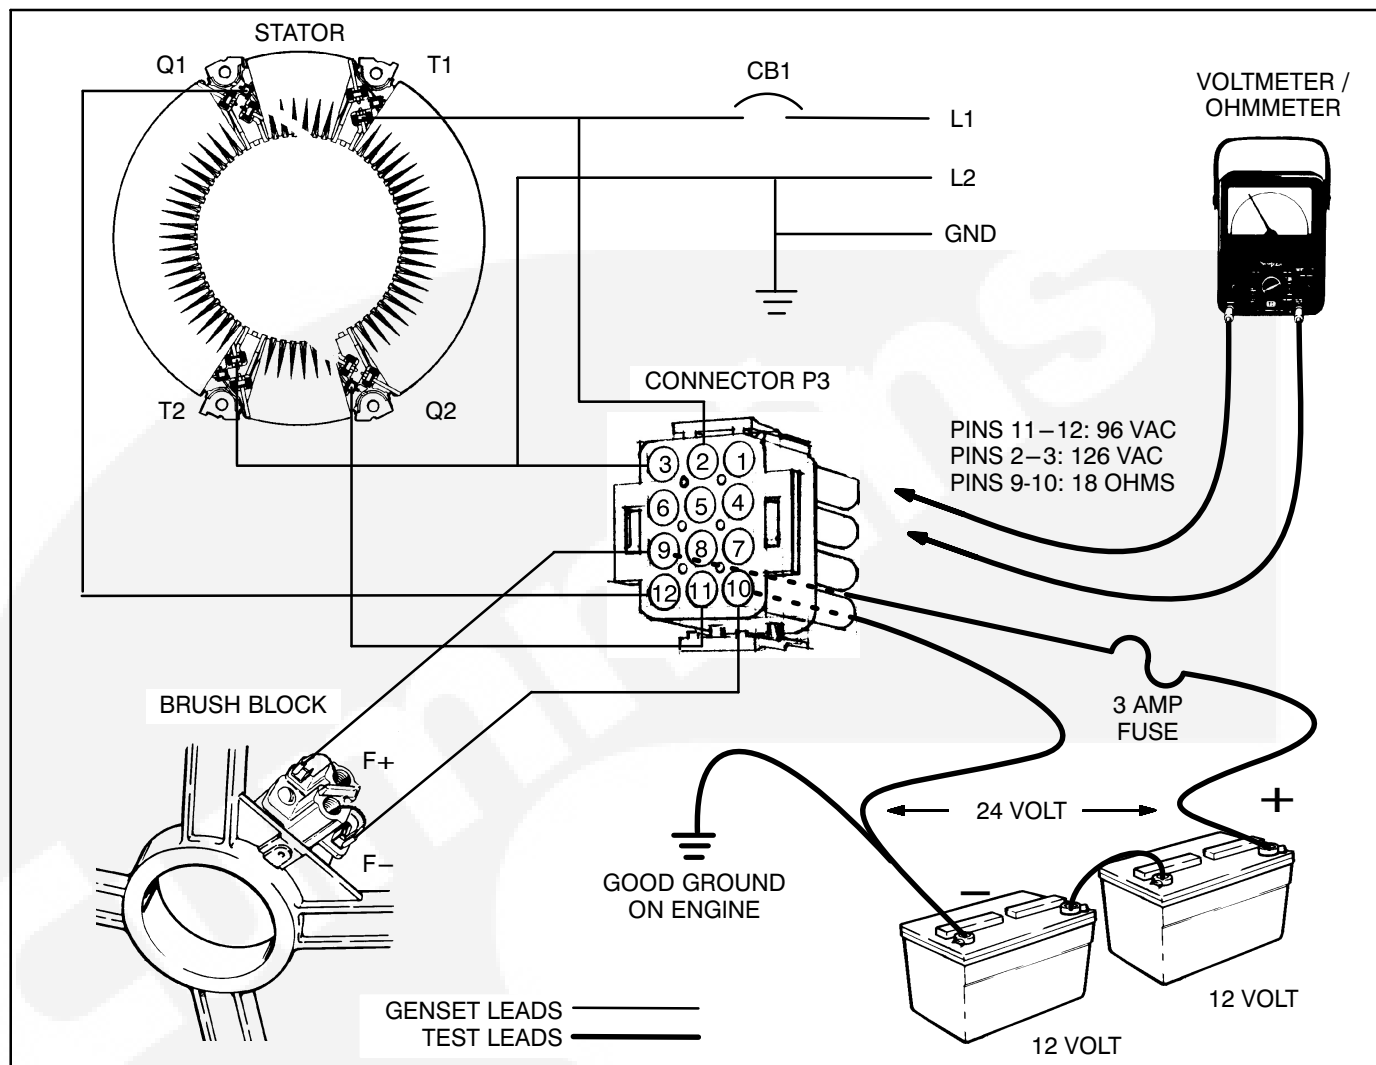

FIGURE 9-3. GENERATOR TEST SETUP AT HARNESS CONNECTOR P3
The quickest way to check out most generator problems, and to determine whether the fault is in the generator or in the voltage regulator, is to disconnect harness connector P3 from the voltage regulator and to use the connector as a test point in the following procedure. See Figure 9-3.
5. Assemble a fused 24 VDC power supply as shown (Figure 9-3). The fuse must be in the positive (+) side of the circuit and be rated not more than 3 amps.